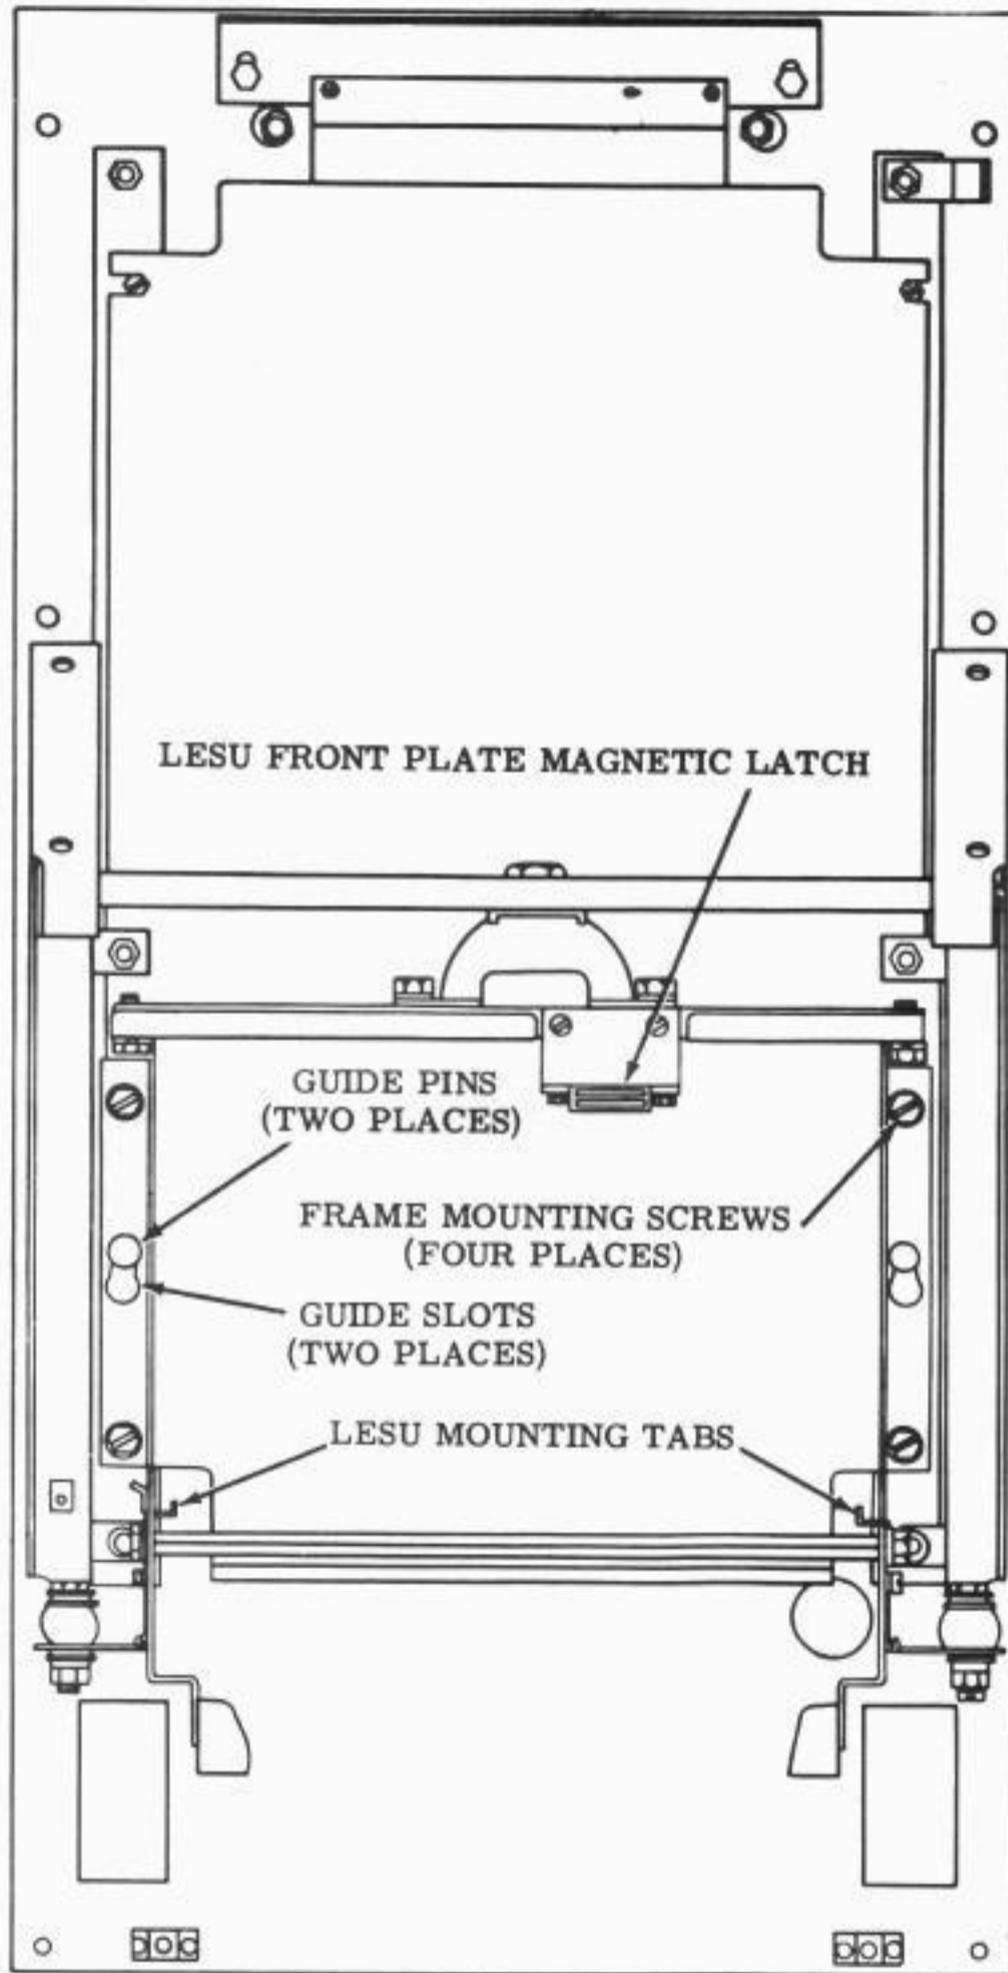

Figure 9 - Backplate Framework
2.48 If the backplate is used for locating the mounting holes on the wall, it may be more convenient to separate the framework from the backplate. This can be accomplished by loosening the four screws shown in Figure 9 and sliding the framework from the backplate assembly.
2.57 The lower part of the mounting frame has four projecting tabs upon which the electrical service unit rests (Figure 9). Place the unit into the frame. On early models, the hinged front plate is held in place by a magnetic latch on the mounting frame. Later models have positive latches. The plate and latch should be perpendicular to each other as gauged by eye. If necessary, loosen the screws and position the latch to meet the requirement.